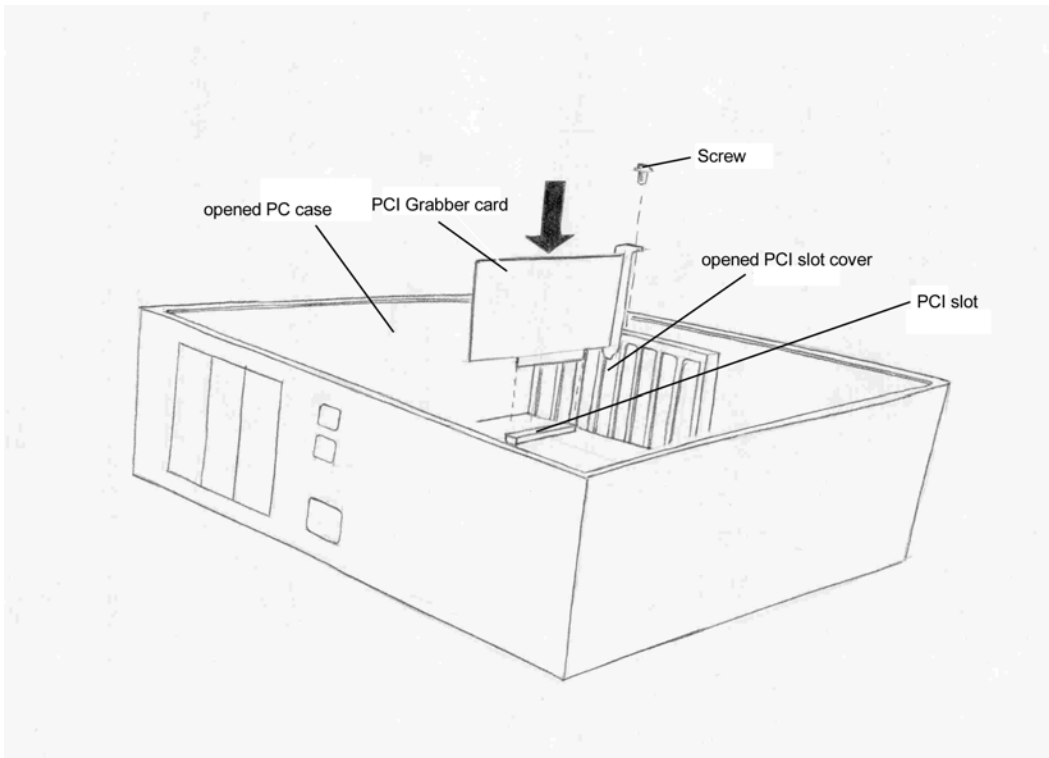

Figure 6: Inserting the Card into the PCI Slot
- As shown in *Figure 6*, insert the pciGrabber-4*plus* into the slot with the connectors facing outwards. The card should be inserted securely.
For stability reasons, and to ensure a secure Ground connection to the computer's housing, screw the card to the housing (*see Figure 6*).